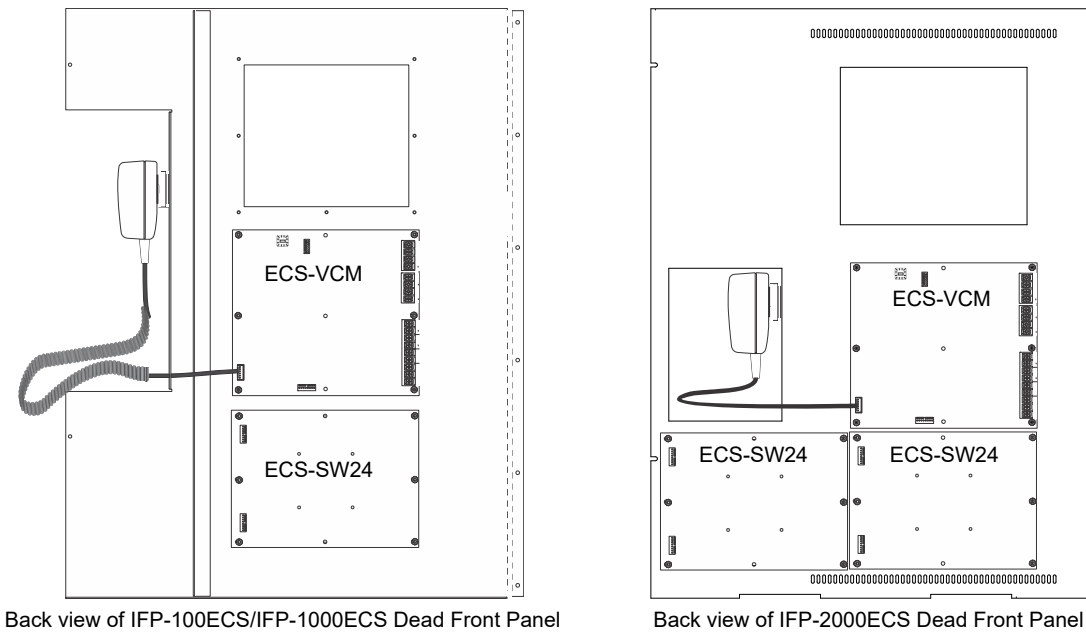

Figure 4.3 ECS-VCM Mounting Locations
4. Install the ECS-SW24 on the six mounting studs located on the inside of the dead front panel. See Figure 4.3 for mounting locations.